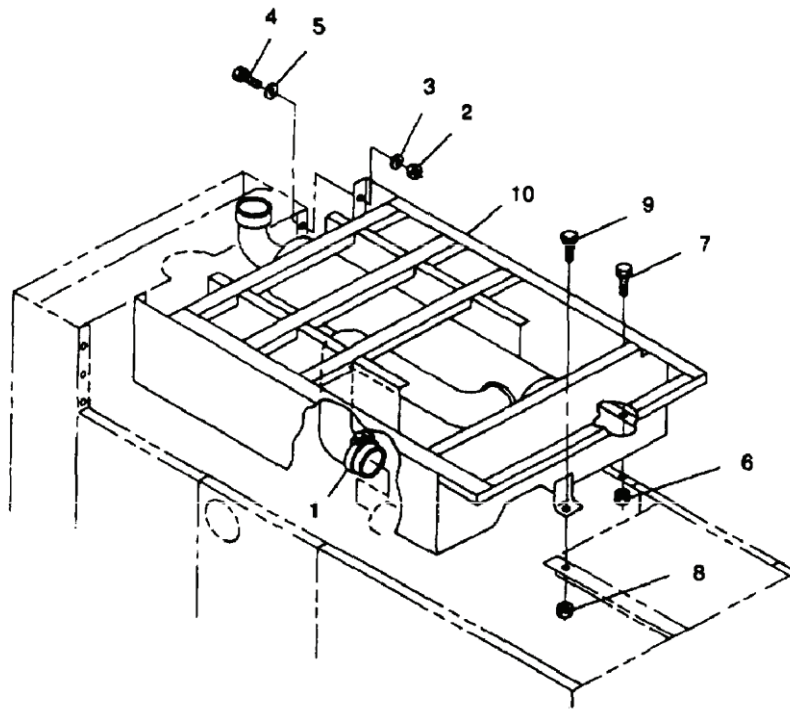
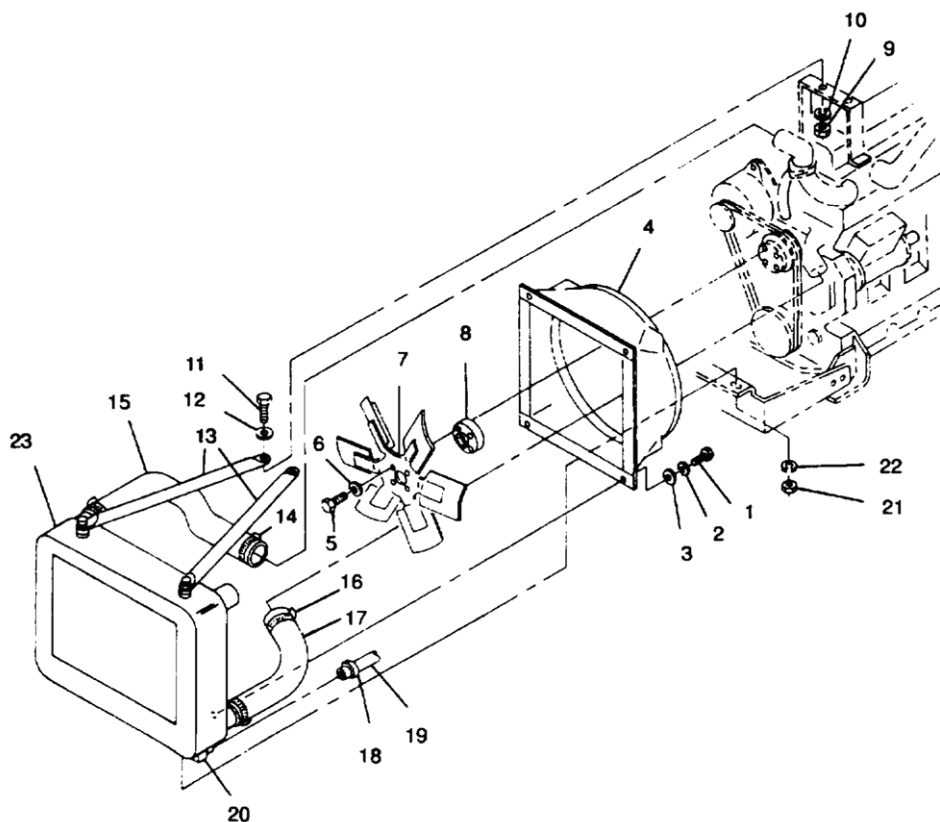

Figure 4. Top Housing Section Assembly.
Figure 5. Radiator Assembly.
12. Remove exhaust pipe clamp (Figure 4, Item 1) at turbocharger outlet.
13. Remove nuts (2), lockwashers (3), flat washers (5), and bolts (4) securing top housing section (10) to front housing. Discard lockwashers (3).
14. Remove assembled nuts (6) and bolts (7) securing top housing section (10) to rear side panels.
15. Remove assembled nut (8) and bolt (9) securing top housing section (10) to output box angle.
16. Using a lifting device, remove top housing section assembly (10) from generator set.
18. Remove bolts (Figure 5, Item 1), washers (3), lockwashers (2), and shroud (4) from radiator assembly (23). Allow shroud (4) to lay on fan (7). Discard lockwashers (2).
19. Remove bolts (5), lockwashers (6), fan (7), spacer (6), and shroud (4). Discard lockwashers (6).
20. Remove nuts (9), lockwashers (10), bolts (11), and washers (12) securing support rods (13) to engine lifting bracket. Discard lockwashers (10).